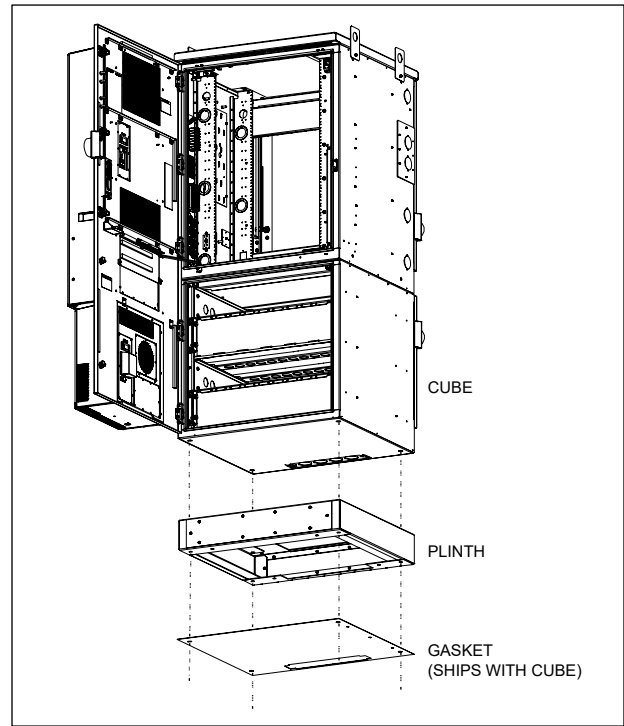

Figure 3
3. Install the gasket by positioning it on the pad with all mounting holes aligned with the holes on the pad as shown in Figure 3.
9. Lower the CUBE onto the plinth, ensuring that the mounting holes on the CUBE are aligned with the holes on top of the plinth (Figure 3).